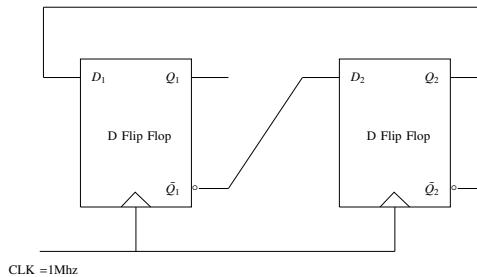

Fig. 5.7
7. In a given sequential circuit in Fig. 5.7, initial states are $Q_1 = 1$ and $Q_2 = 0$. For a clock frequency of 1MHz, find the frequency of signal Q_2 in kHz (rounded off to the nearest integer).